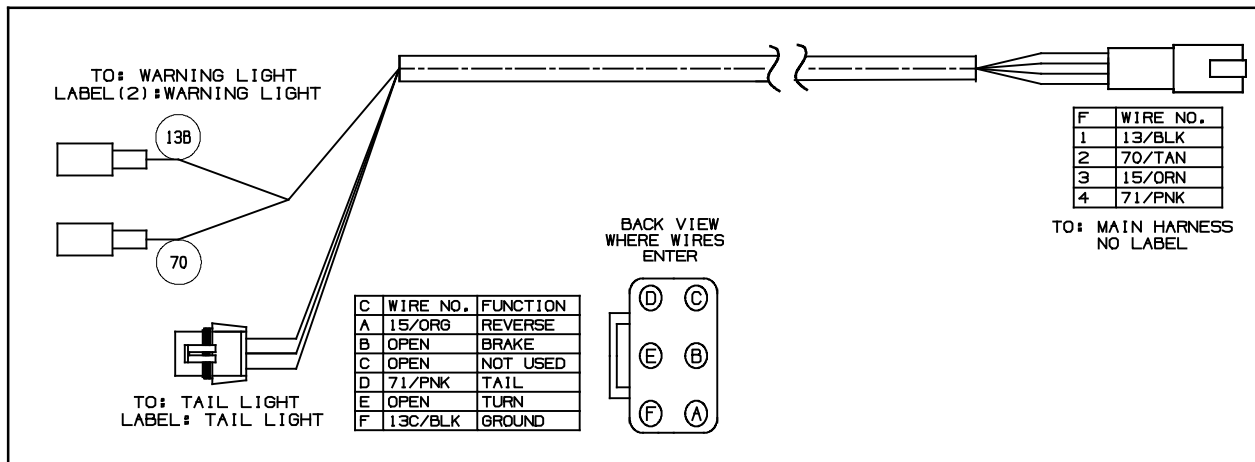
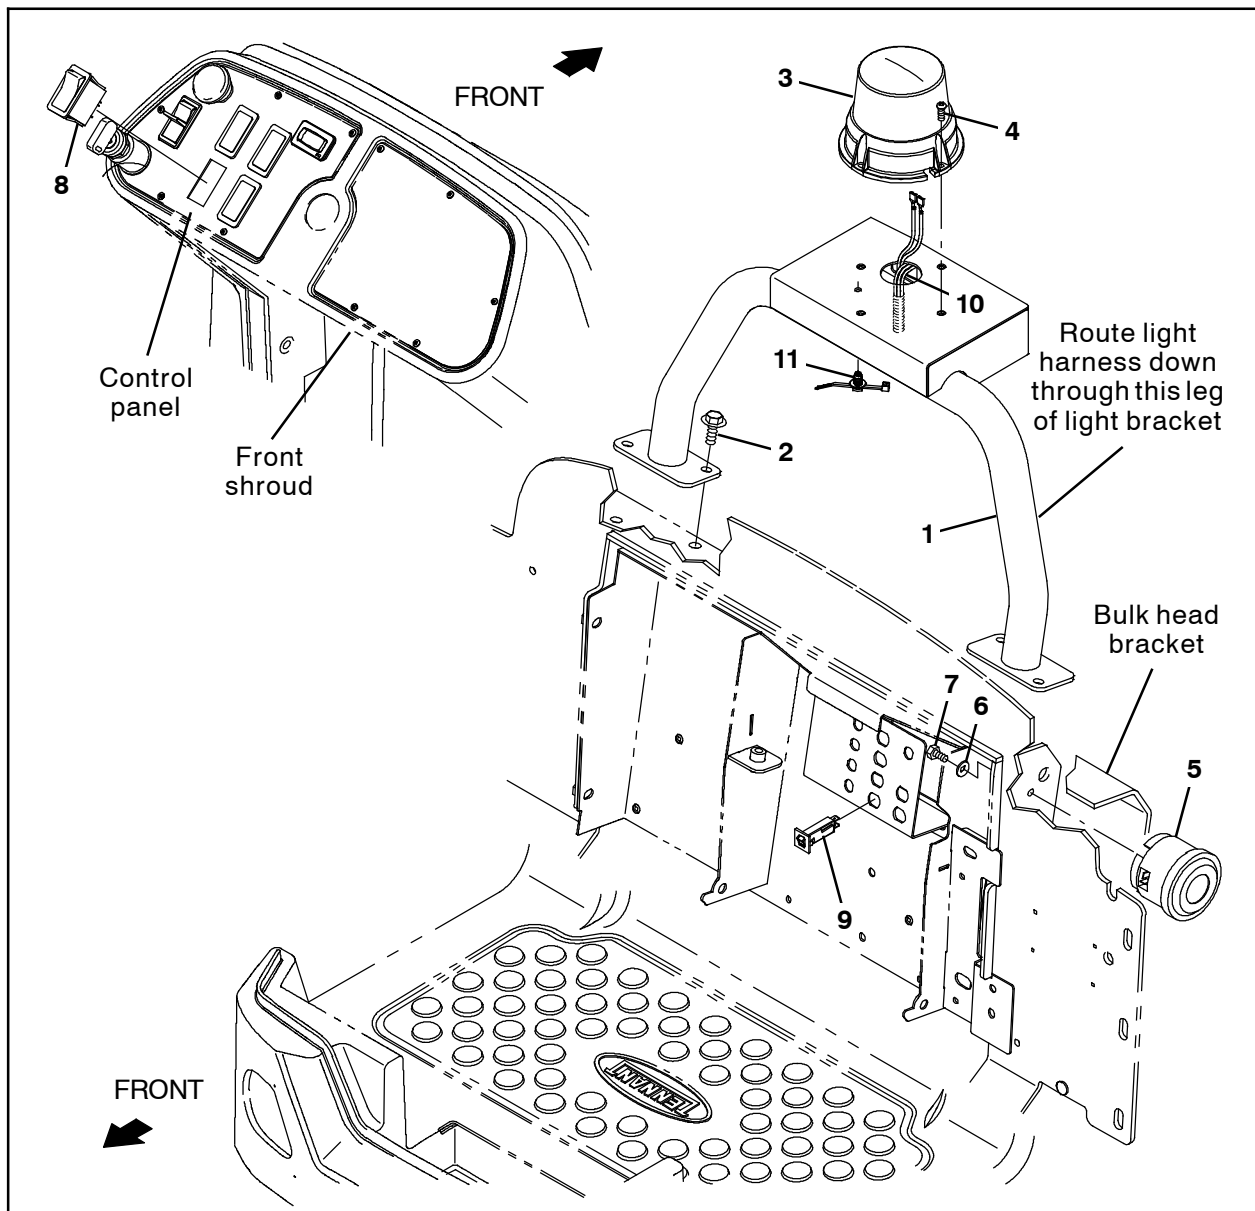

FIG. 2
FIG. 3
1. Route the light harness (10) through the the leg of the light bracket (1) that will be installed on the left side of the machine. (Fig. 3)
2. Use four SEMS M8 hex screws (2) to install the light bracket (1) onto the bulkhead bracket. (Fig. 2)
3. Route the light harness (10) into the electrical compartment near the rear breaker bracket and connect the light harness to the main wire harness. (Fig. 2/Fig. 3)
4. Use four M5 button screws (4) to install the strobe light (3) onto the light bracket (1). (Fig. 2)
5. Connect the light harness (10) to the strobe light (3). (Fig. 2/Fig. 3)
6. Use the wire tie (11) to secure the light harness (10) to the light bracket (1). (Fig. 3)
7. Insert the 2.5- Amp circuit breaker (9) into circuit breaker location CB8 on the rear breaker bracket. (Fig. 3)
8. Connect the main wire harness to the 2.5- Amp circuit breaker (9) installed in the previous step. (Fig. 3)
9. Connect the main wire harness to the backup alarm (5). (Fig. 3)
10. Use a hex screw (7) and a flat washer (6) to install the backup alarm (5) onto the bulkhead bracket. (Fig. 3)
11. Remove the hardware securing the control panel to the front shroud and carefully lift the control panel from the shroud. Do not break any wire or cable connection when lifting the panel from the shroud. (Fig. 3)
12. Remove the hole plug from the location where the rocker switch (8) is to be installed on the control panel. Discard the plug. (Fig. 3)
13. Insert the rocker switch (8) into the control panel. (Fig. 3)
14. Connect the main wire harness to the rocker switch (8). (Fig. 3)
15. Reinstall the control panel onto the front shroud. (Fig. 3)
20. Turn key switch to ON and test the machine. Press the rocker switch (8) to turn on the strobe light and backup alarm. The light should function while the machine is on and the backup alarm should function when the machine is in reverse. Check cable connections and if strobe light and/or backup alarm do not function.